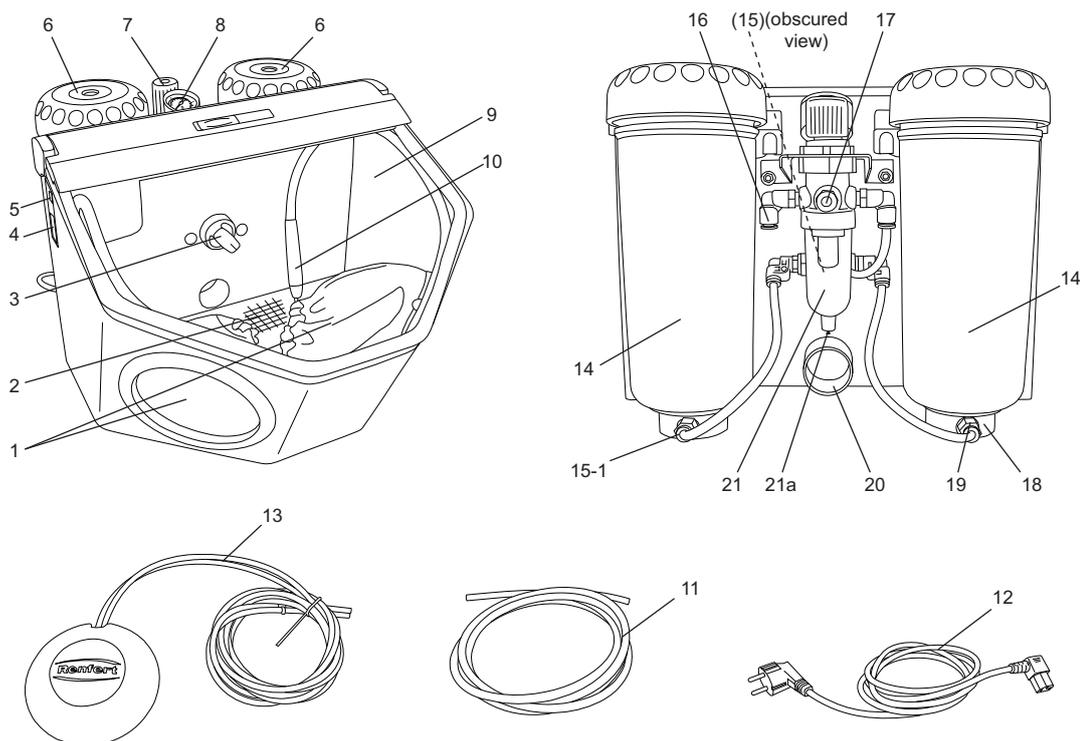

fig. 1
1-tank version: (15-1, Abb. 1)
- Switch the illumination on (5).
- Select the blasting tank at the selection switch (3, fig.1) (only on the 2-tanks version).